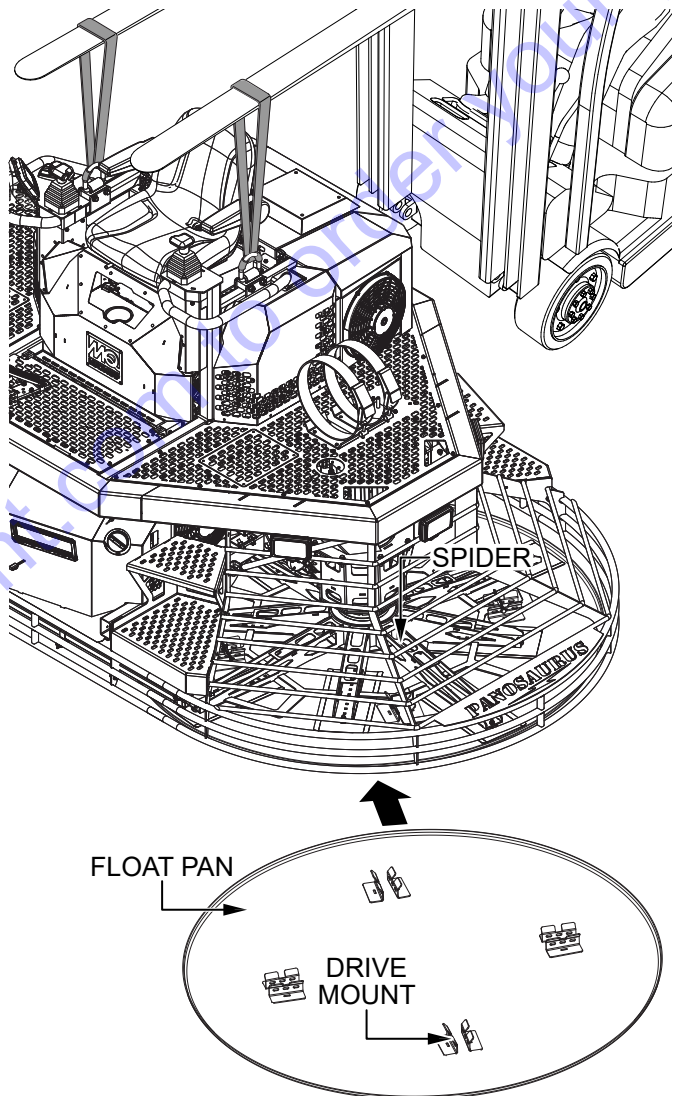

Figure 82. Lift and Slide
1. With the float lifted off the ground, slide a float pan under the spider with the float pan drive mounts facing upward (Figure 82).